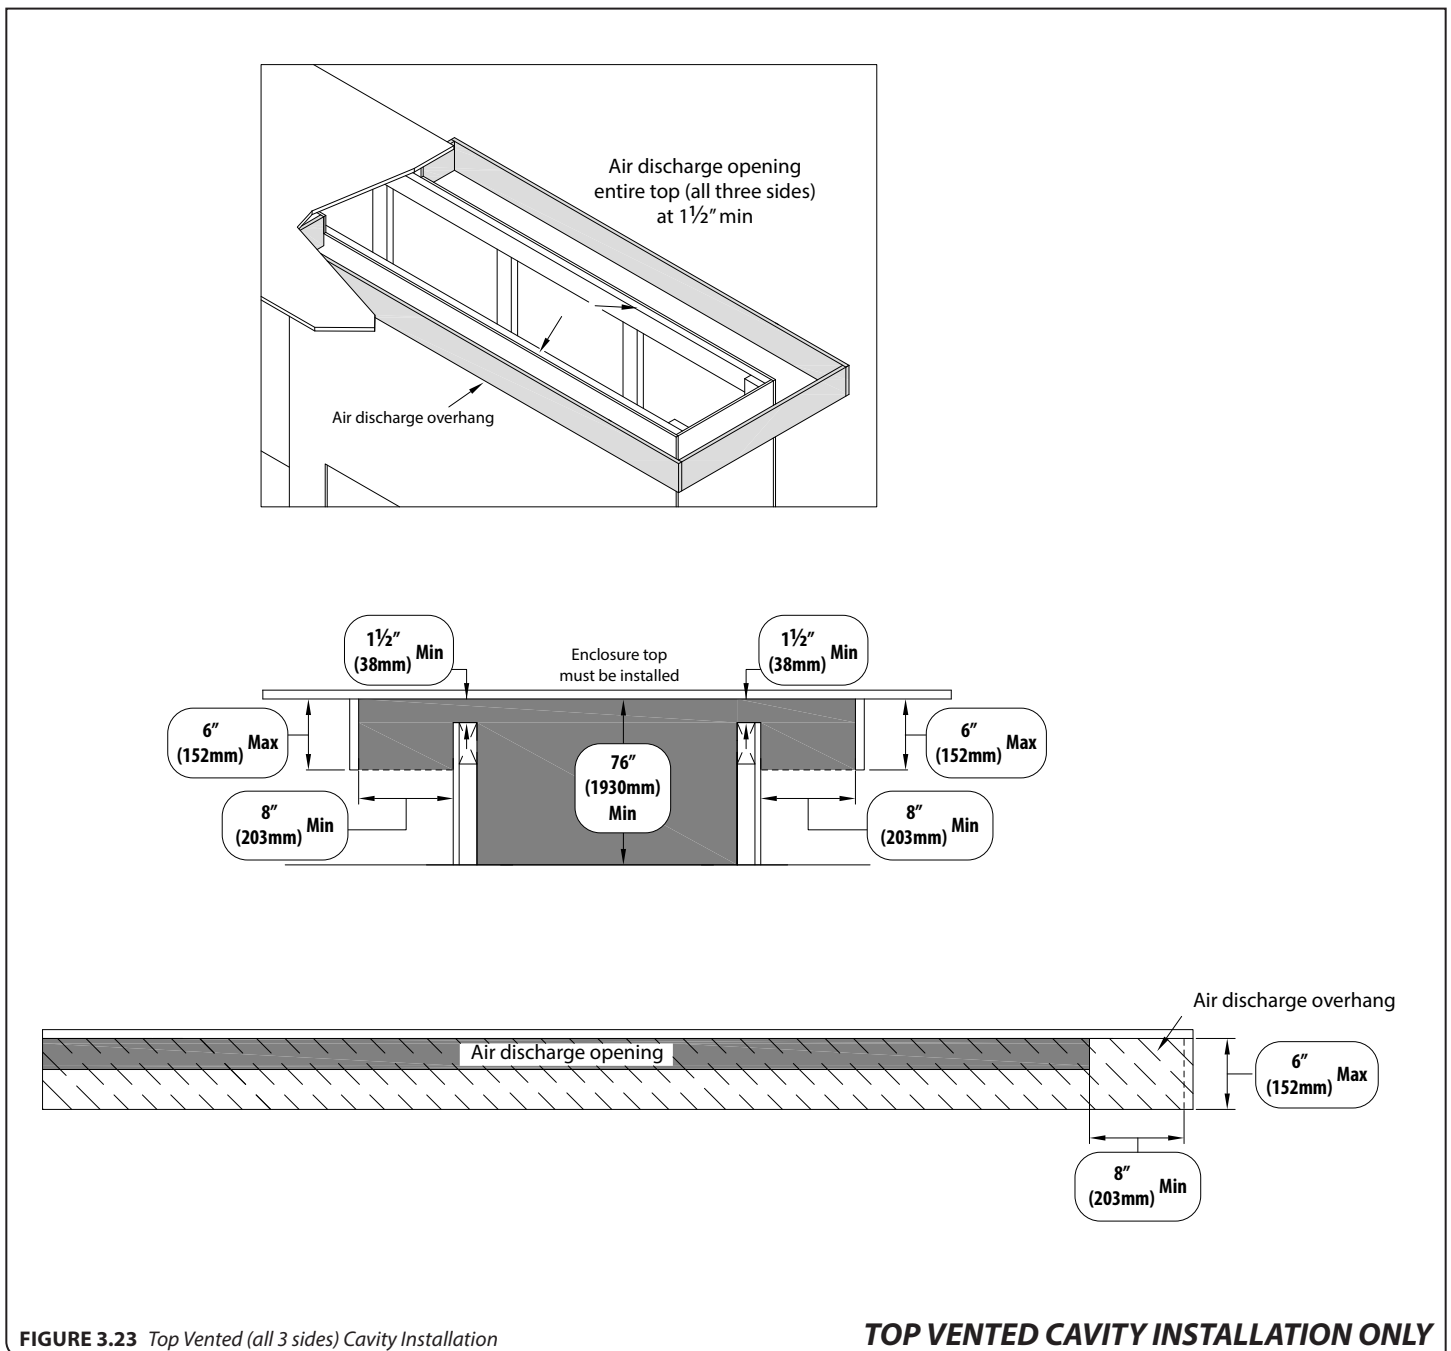

FIGURE 3.23 Top Vented (all 3 sides) Cavity Installation
- **FIGURE 3.23** shows the minimum 1-1/2" (38mm) clearance from the fireplace enclosure top to the ceiling on all three sides of the enclosure.
- **FIGURE 3.23** is shown with an air discharge overhang in front of the air discharge opening. This optional installation method can provide a means to visually hide the air discharge opening.